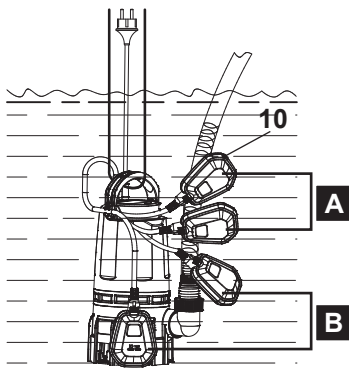

Fig. 5
NOTE: The float switch (10) contains a ball that activates a switch. The product works only if the float switch is above position A, position B corresponds to the switch off level for the pump (Fig. 5).
The product is started at a certain water level by the float switch (10) (switch on level) (Fig. 5, A). The product continues pumping until the water level is lowered to a particular height and then the float switch turns the product off (switch off level) (Fig. 5, B).